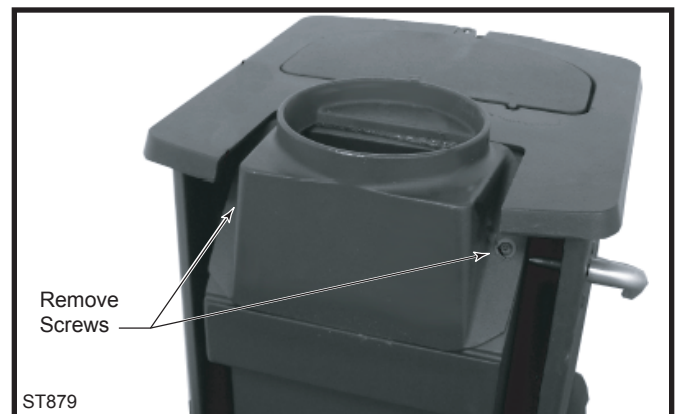

Fig. 13 Remove screws holding flue collar in place.
1. Remove the two (2) screws that hold the flue collar in position. (Fig. 13)